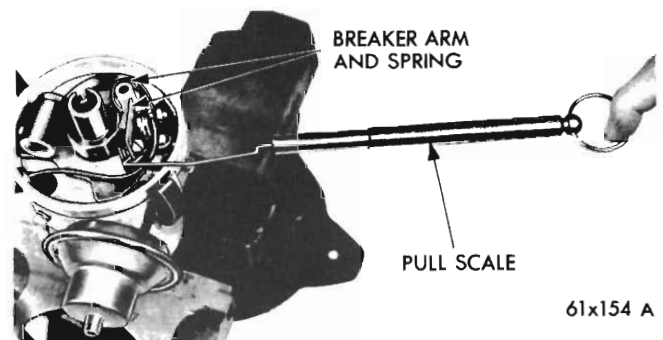

Fig. 3 - Testing contact arm spring tension
(1) Hook a spring scale (Tool MTU-36) on the contact arm and pull in a straight line at right angles to the contact surfaces (*Fig. 3*). Take a reading as the contacts start to separate under the slow and steady pull of the scale. The spring tension should be 18 - 24 ounces. If the reading is outside these limits, loosen the nut which holds the end of the movable arm spring and rotate the end of the spring as necessary to adjust tension.